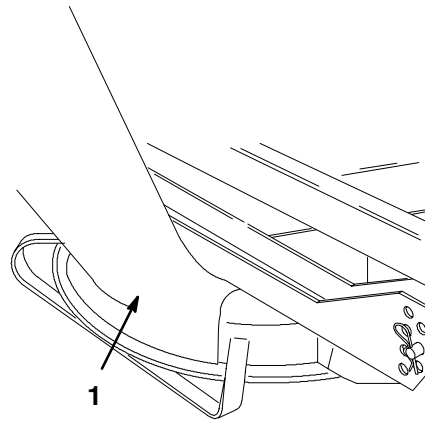

Figure 8
2. Slide chute assembly onto deck lip while aligning mounting holes in deck channel (Fig. 8).